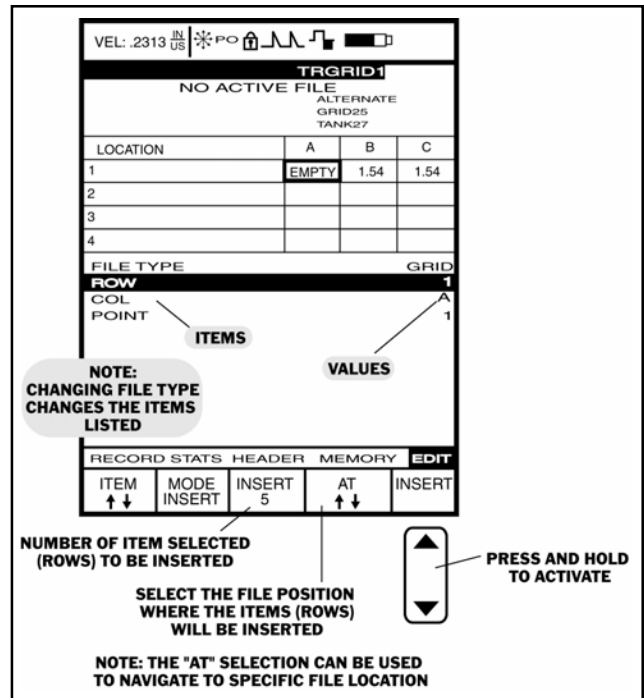

FIGURE 5-10—This is how the EDIT screen will look when the Insert function is selected. The Append screen is very similar.
Step 3: Activate the EDIT Submenu by selecting it with  or  so that it's highlighted. Selections will appear across the bottom of the display screen including ITEM and MODE (Figure 5-10).
Step 4: Press  below the selection titled ITEM. You'll note that several file characteristics are listed including some of the following: *Point*, *Row*, *Column*, or *Location*. This listing varies depending on the selected file type. In Figure 5-10, a Grid file type is selected.